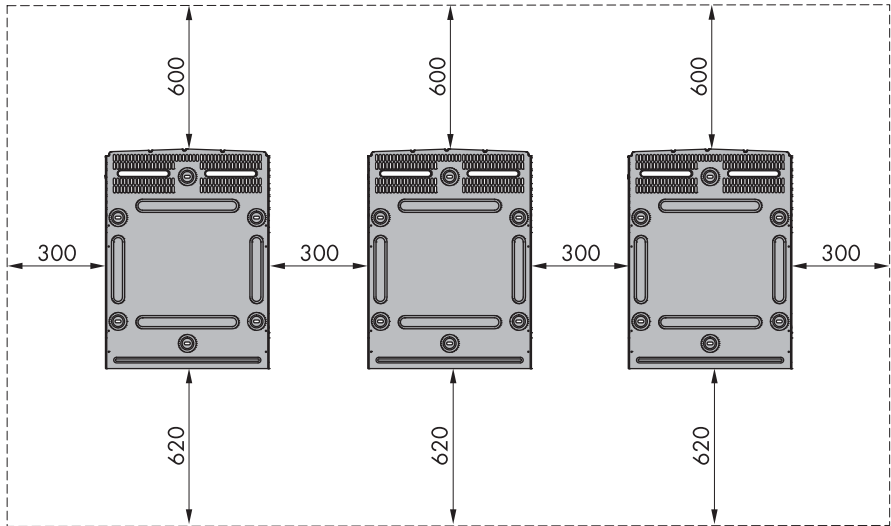

Figure 2.8 Safety clearances in mm
The safety clearances to other objects must be maintained to ensure sufficient air circulation (see figure 2.8).
- When installing one or several inverters, observe the safety clearances to ensure sufficient airflow. Clearances are specified in figure 2.8 and on the wall mounting bracket label.